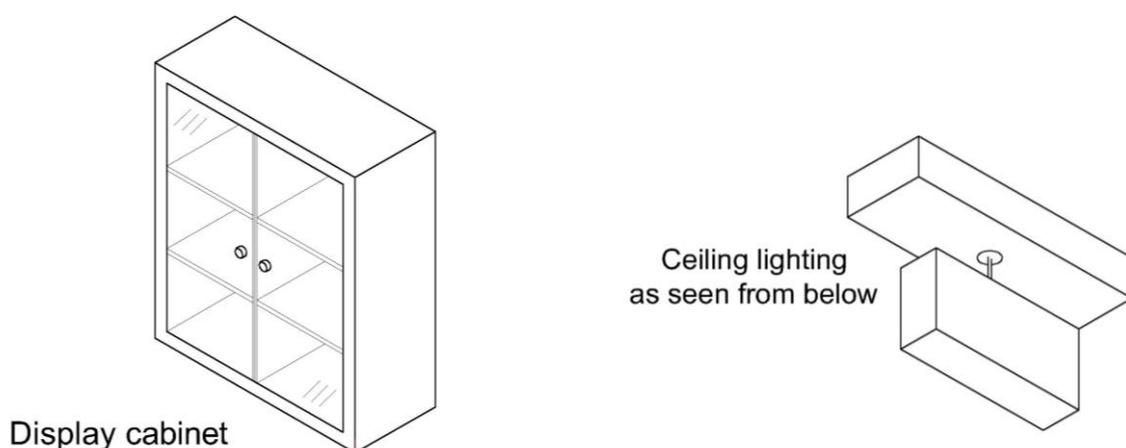

Figure 1a
- Pictorial views of one of the display cabinets and the ceiling lighting are given in Figure 1a below.